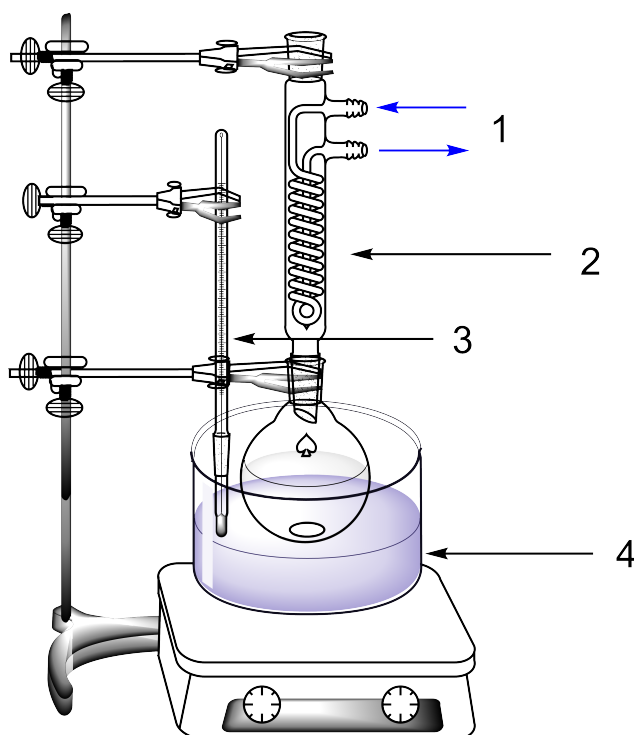

Figure 1: 1 = cooling water, 2 = reflux condenser, 3 = thermometer, 4 = oil bath.
- Place** the flask in an oil bath, **turn on** the hotplate and **heat** the reaction mixture to reflux (ca. 110 °C, check the bath temperature with a thermometer, see **Figure 1**) for 1 h. After that time, **raise** the flask above the oil bath by adjusting the position of the clamp.